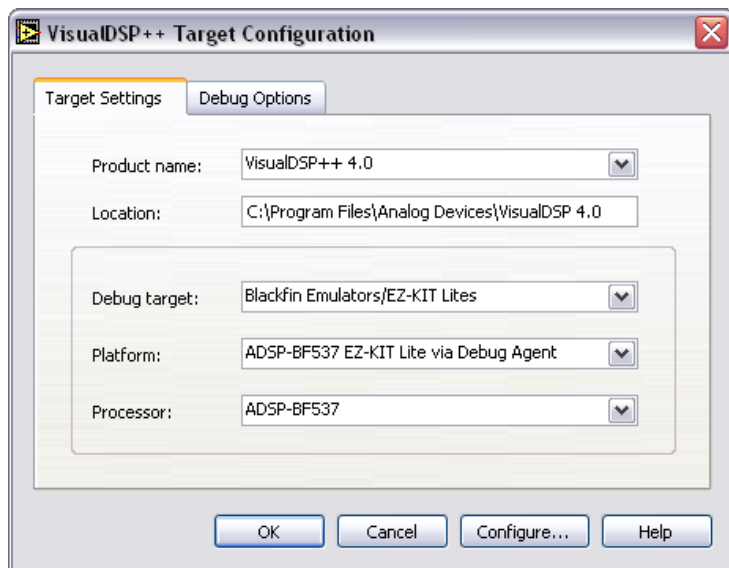

Figure 11. Configuring the Target Settings
4. Select **ADSP-BF537** from the **Processor** pull-down menu as shown in Figure 11.